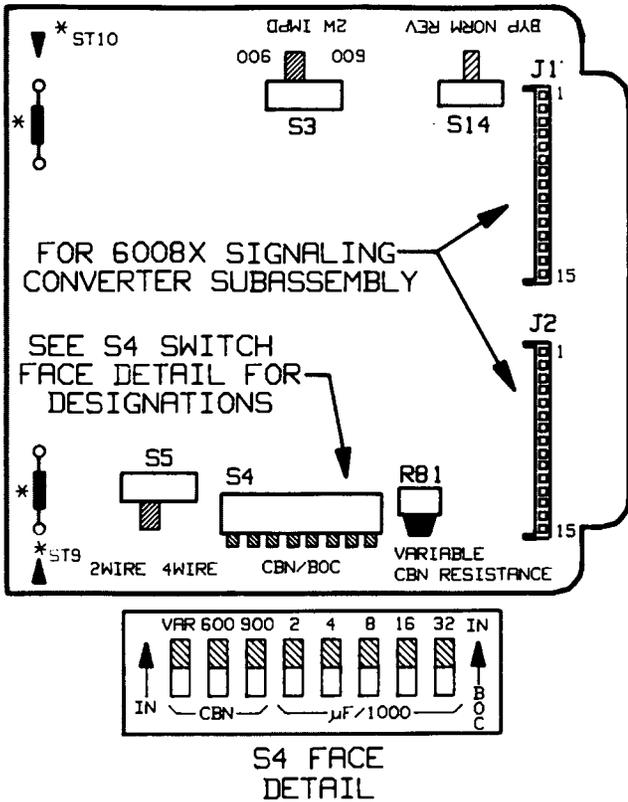

figure 2. 6131 option switch and strap locations
3.05 With the exception of two factory-installed straps that allow for loss only or a choice of gain or loss in each channel and that are covered under **alignment** later in this practice, all 6131 options are selected via slide or DIP switches. Locations of these switches and straps on the module's printed circuit board are shown in figure 2. Table 3 gives a brief explanation of the function and settings of each option switch and strap, along with a convenient optioning and alignment checklist. The checklist can be filled out (by checking the appropriate box for each switch and strap) either prior to installation to allow for prescription optioning and alignment of the module, or as the module is being optioned and aligned to provide a record for future reference. Detailed instructions for optioning the 6131 are provided in paragraphs 3.06 through 3.09.
3.10 In applications where an optional Tellabs 6008X Signaling Converter subassembly is to be used on the 6131, refer to figure 2 for the appropriate connector locations and install the subassembly as follows:
3.12 To adjust the transmit and receive levels on the 6131, proceed as follows: From table 3 or the CLR, determine whether loss or gain is required in each channel. If loss is required in a channel (as is mandatory in FCC-registered applications), set the *ls* position of that channel's front-panel *level* DIP switch to *in* and the adjacent *gn* position of the same DIP switch to *out*. If gain is required in a channel (non-registered applications only), ensure that the appropriate option strap on the 6131's printed circuit board (see figure 2) is cut or removed; then set the *gn* position of that channel's *level* DIP
- E. If the specified transmit output level is **higher than** the measured transmit output level, gain is required. Ensure that option strap S79 on the 6131's printed circuit board (see figure 2) is cut or removed (please note that this is permissible in **non-FCC-registered** applications only). Then set the *ls* position of the front-panel *xmt level* DIP switch to *out* and the *gn* position to *in*. Finally, set to *in* that combination of *xmt level* dB-value DIP switches which equals the required amount of gain (see note below). This amount is the difference between the transmit output level measured in step C and the CLR-specified transmit output level.
- E. If the specified receive/2wire output level is **higher than** the measured receive/2wire output level, gain is required. Ensure that option strap ST10 on the 6131's printed circuit board (see figure 2) is cut or removed (please note that this is permissible in **non-FCC-registered** applications only). Then set the *ls* position of the front-panel *rcv level* DIP switch to *out* and the *gn* position to *in*. Finally, set to *in* that combination of *rcv level* dB-value DIP switches which equals the required amount of gain (see note below). This amount is the difference between the receive/2wire output level measured in step C and the CLR-specified receive/2wire output level. If the 6131 is optioned for 2wire facility-side interface, proceed to paragraph 3.17. If not, alignment is complete.